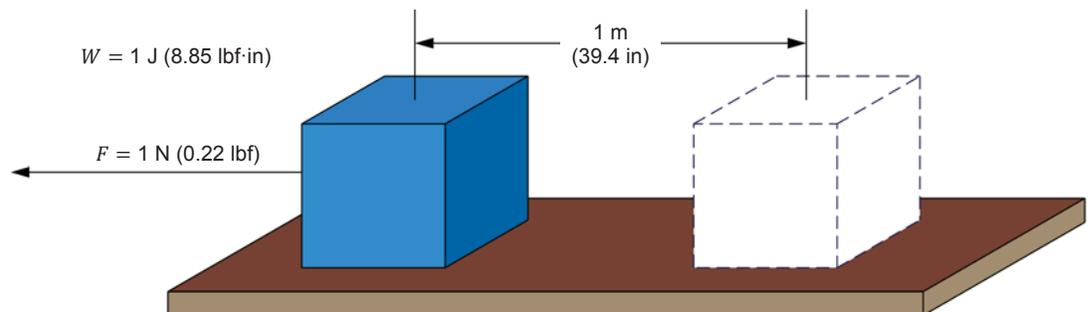
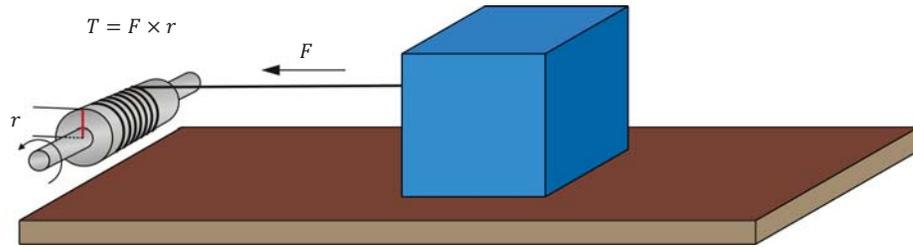

Figure 1. Work required to move a block.
Figure 2. Moving a block using a pulley.
Figure 1 shows the example of a block that is moved over a distance  $d$  of 1 m (39.4 in) by a force  $F$  of 1 N (0.22 lbf). Using Equation (1), it can be calculated that a mechanical work  $W$  of 1 J (8.85 lbf·in) has been done.
Consider now that the block in Figure 1 is moved over the same distance using a pulley that has a radius  $r$ , as shown in Figure 2.